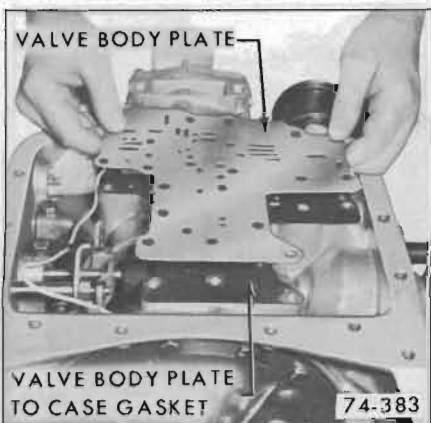

Figure 74-115
8. Remove valve body plate and gasket. See Figure 74-115.